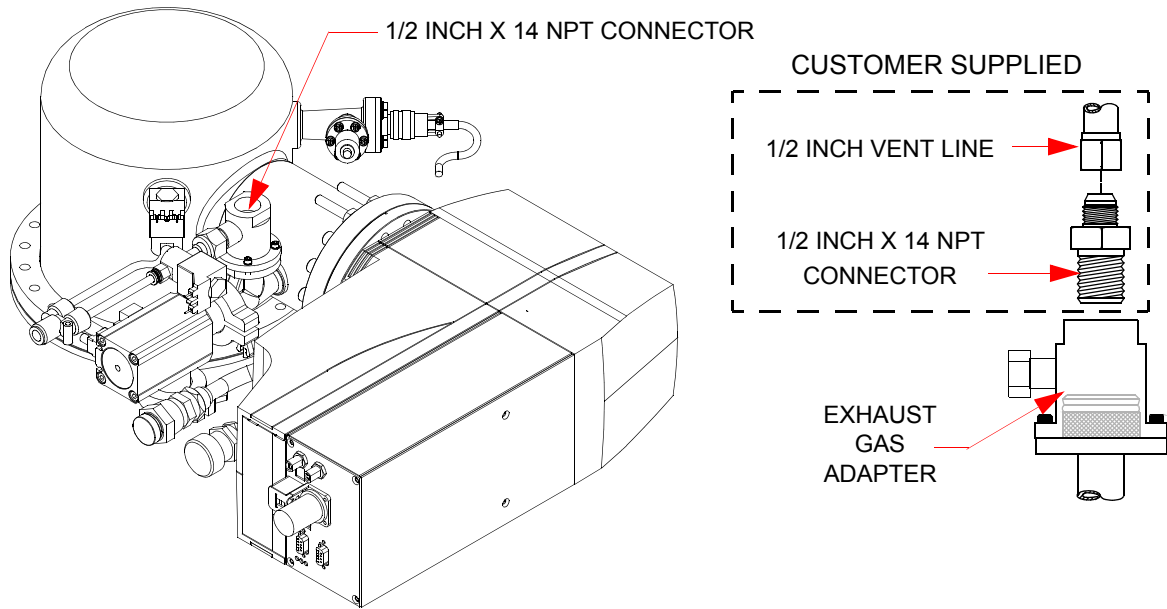

Figure 3-5: Pressure Relief Valve Exhaust Connection
See Figure 3-5 for the exhaust gas adapter available from Brooks.
1. Install a customer supplied 1/2 inch x 14 NPTF Tube Adapter in the exhaust gas adapter as shown in Figure 3-5.
2. Connect a customer supplied 1/2 inch exhaust system vent line to the Tube Adapter fitting as shown in Figure 3-5.